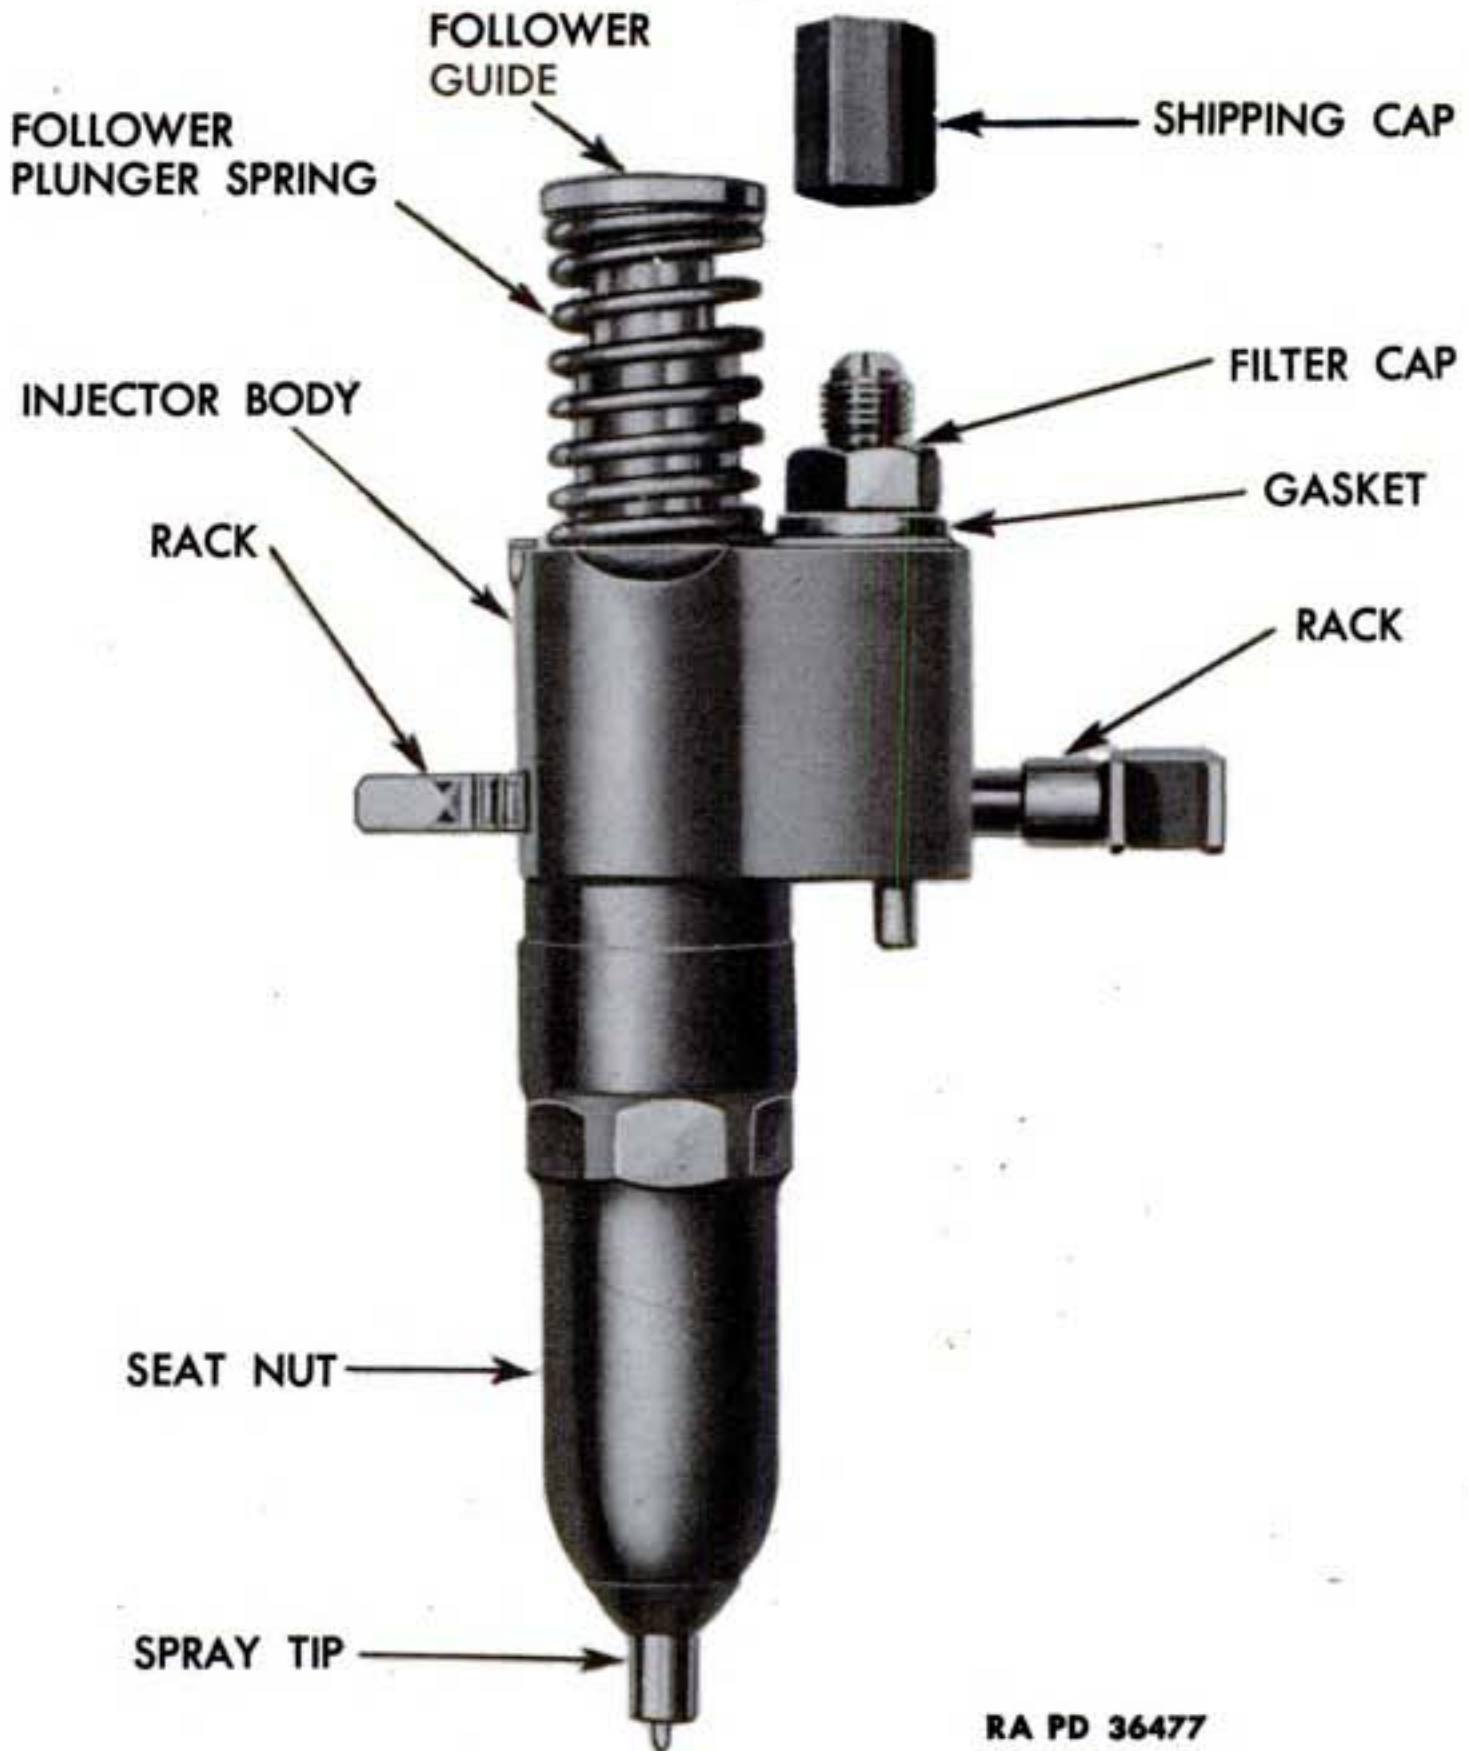

Figure 41—Fuel Injector
a. **Description** (fig. 41). The fuel injectors force accurately measured quantities of Diesel fuel into the cylinders under tremendous pressure at precisely the right time for the cylinders to fire.